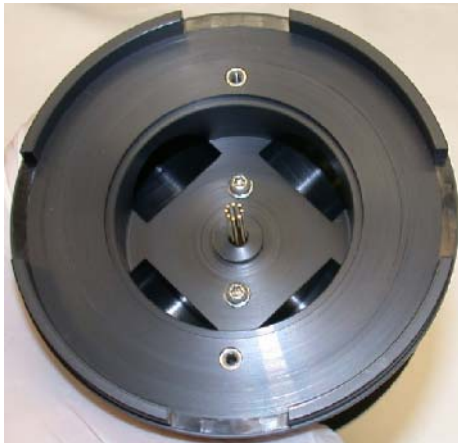

Figure 57 Octopole rods extending through Skimmer Spacer.
- 8 Remove the two screws holding the octopole to the skimmer space (Figure 57). Be careful not to let the ion optics fall on the table. Support the octopole by holding it up by the octopole tube.